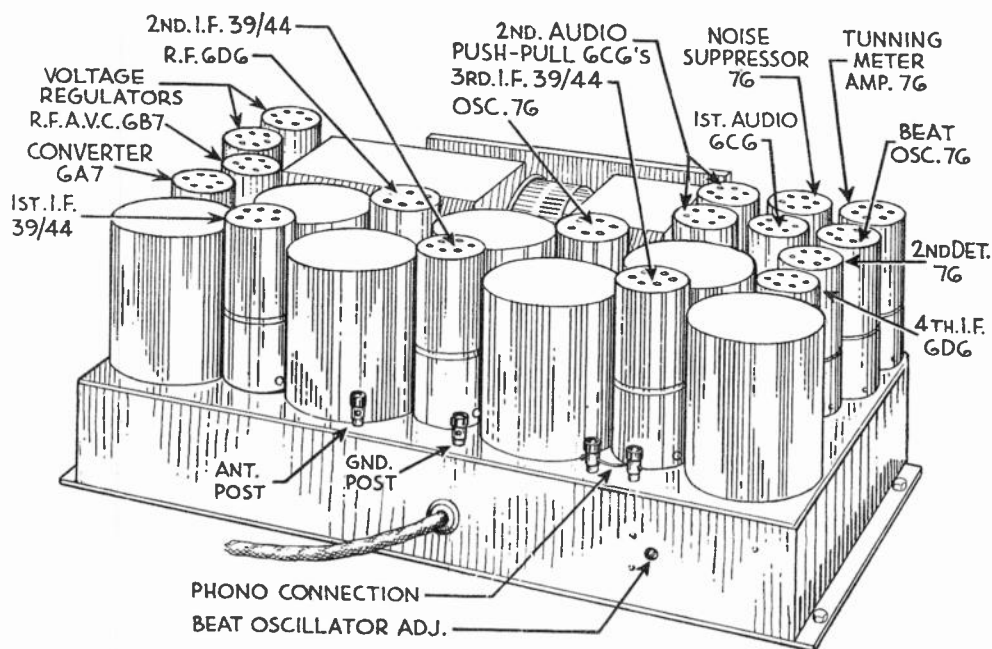

Fig. 10
Fig. 10 will tell you the type of tube used in each socket of the chassis. However, each tube socket in the receiver is marked for the type of tube that is to be used in it.
The 6C6 tubes in the 1st and 2nd Audio as shown in Fig. 10 may become microphonic and cause the receiver to howl on certain stations. It may help to interchange these tubes.
- DON'T - Try to operate the receiver without the inner tube shields in place; otherwise, oscillation and instability will result. These inner shields are required only for the first, second, third and fourth I.F. stages. (See Fig. 10).